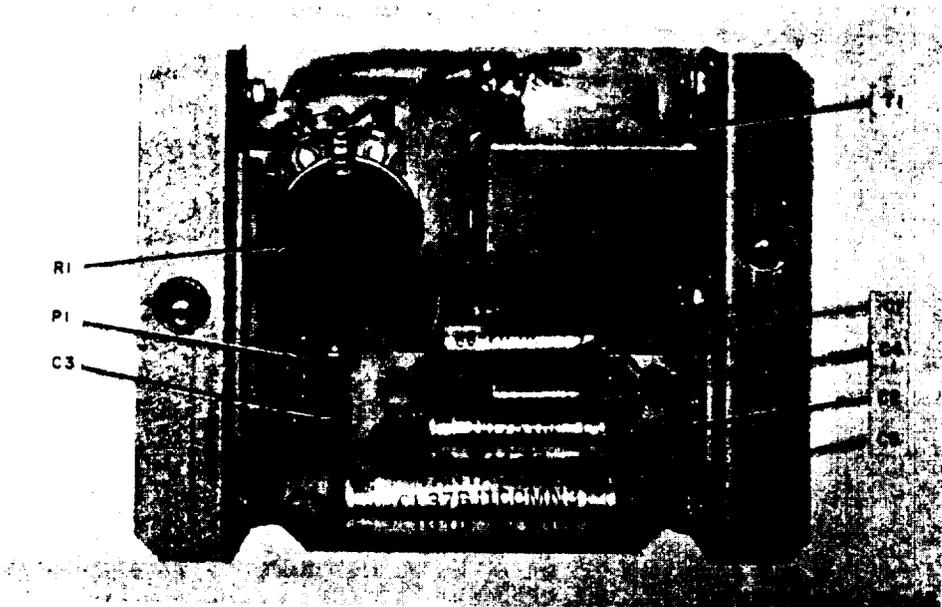

Figure 2-25. Inverter, bottom view.
*b.* Connect one end of the test set cable W4 to the test set and the other end to connector PI on the inverter (fig. 2-25). The length of the cable will permit bench tests on the in-
a. Test the transistors with Transistor Tester TS-1836/U (figs. 2-25 and 2-26).